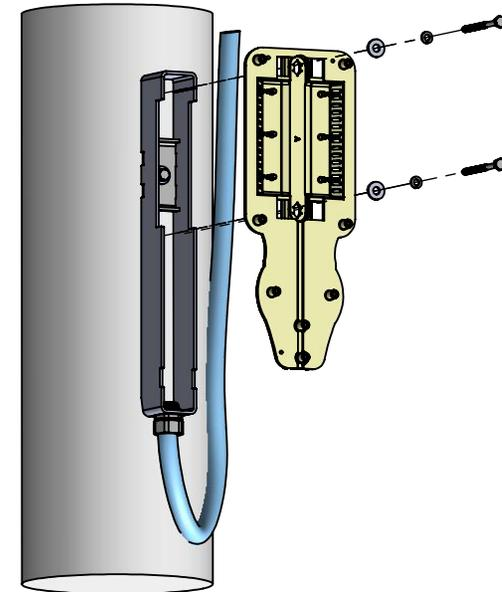

Figure 3
6. Remove ground screw (do not lose screw) from terminal block area of push button station, and remove push button module from backplate. Mount push button backplate to bracket using two 3 1/2" long lag screws (1/4-10X3-1/2XXHHGV), two helical spring washer (HSR1/4HS), and two flat washers (FPA1/4-NSS) as shown in Figure 3, making sure top edge of backplate is flush to top edge of bracket.